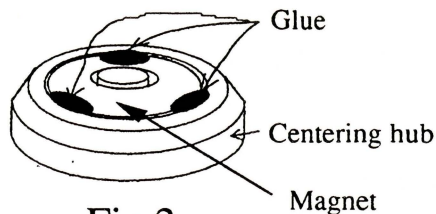

Fig.2
12. Add LOCKTITE 648 between magnet and centering hub ( three places ). (fig.2)